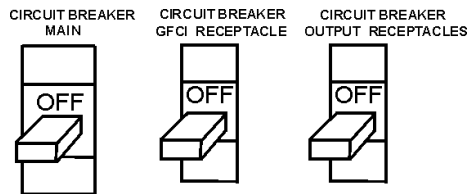

Figure 34. Main, GFCI and Load circuit breakers
1. Switch both the MAIN, GFCI and LOAD circuit breakers (Figure 34) to the "OFF" position.